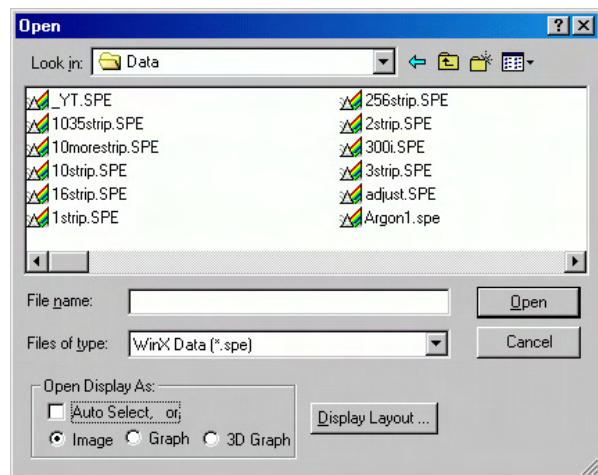

Figure 58. Open dialog box
1. Select Open from the File menu. The File Open dialog box will appear (Figure 58).
2. Open the directory containing the data files. Clicking on the button at the right of the Look In field opens a browser function, allowing you to quickly and easily access the correct folder. As shown in Figure 58, the data files will be listed below.